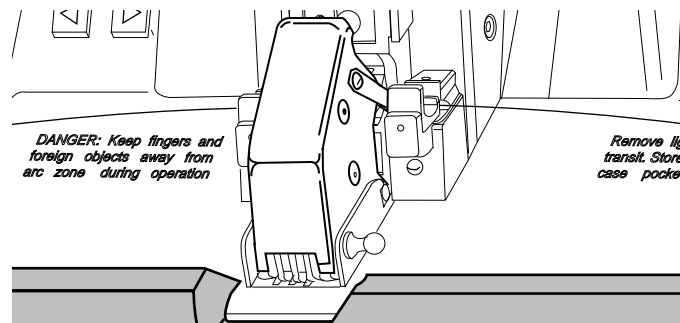

Figure 14
4.7 Gently close the light tower and turn on the set (Figure 14).